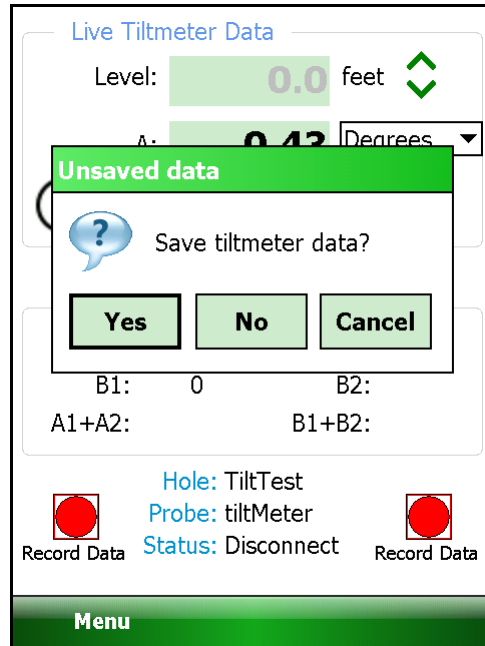

Figure 7 - Saving data query
Figure 7 - Saving data query	8
7. Reverse the Tiltmeter orientation to A- and, again, tap “Record Data” to take the “A-” reading. For the Model 6101D, the “B-” reading is taken at the same time as “A-”. Tapping “Menu->Exit Live Readings” will display the window in Figure 7.